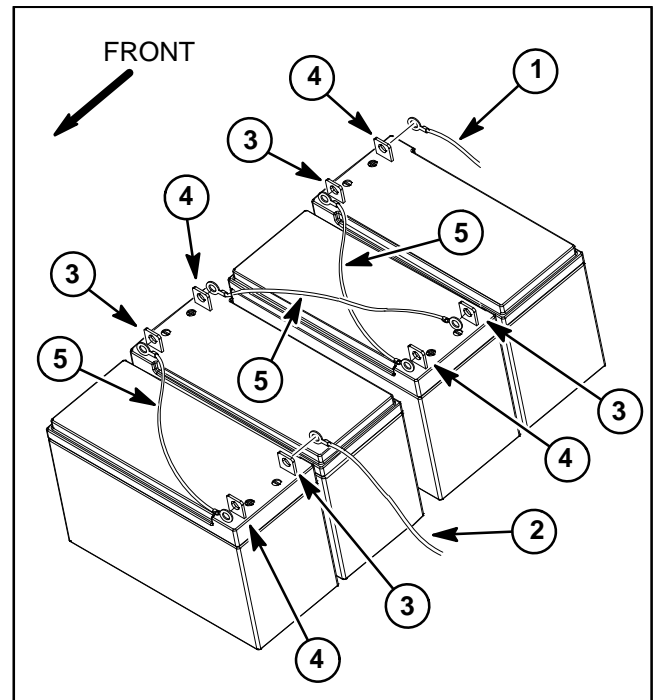

Figure 102
2. Place batteries onto battery plate in machine noting positions of battery terminals (Fig. 102).
3. Secure batteries with battery clamp (item 4).